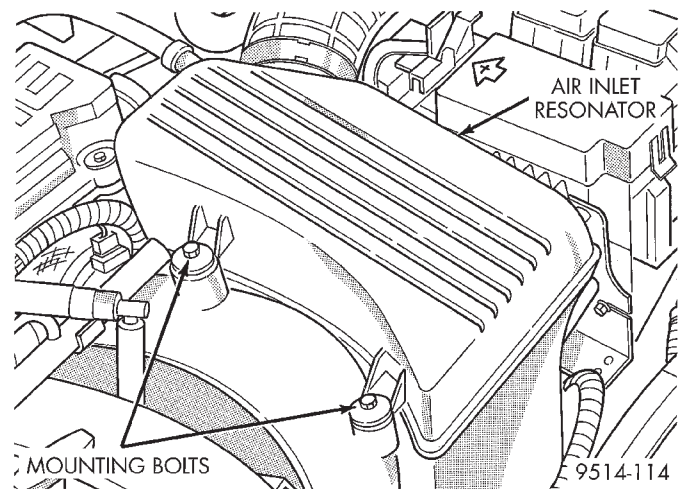

Fig. 82 Air Inlet Resonator
- (1) Remove 2 bolts holding air inlet resonator to intake manifold (Fig. 82).